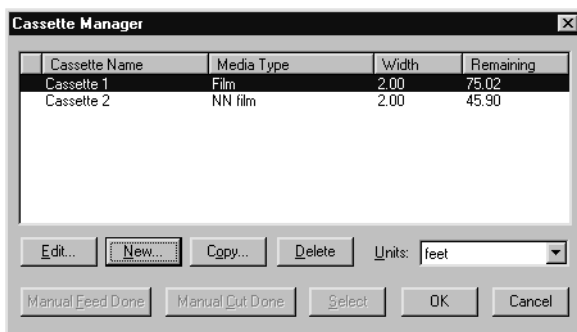

Figure 9.4 Cassette Manager dialog box
Before processing any jobs, you need to tell the RIP about the cassettes you are using and give details of the media currently in each cassette. You do this from the Cassette Manager dialog box. Click the **Cassette Manager** button in the Edit Page Setup dialog box or choose **Output > Cassette Manager** to open the Cassette Manager dialog box, as shown in Figure 9.4.
- If you perform a manual operation by using controls on the output device, you must inform the RIP. Display the Cassette Manager and click the button **Manual Cut Done** or **Manual Feed Done** whenever you perform the corresponding manual operation. See Figure 9.4, page 301, and the following description of the buttons.